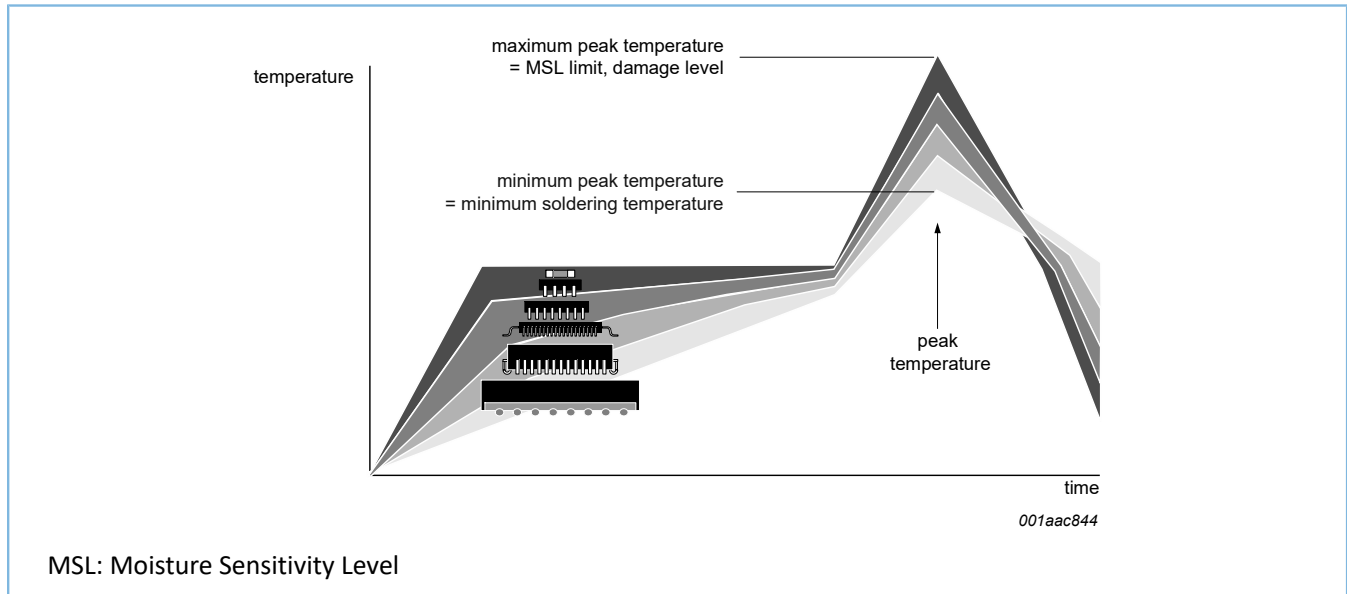

Figure 14-1: Temperature profiles for large and small components
- Lead-free versus SnPb soldering; note that a lead-free reflow process usually leads to higher minimum peak temperatures (see Figure 14-1) than a SnPb process, thus reducing the process window
Studies have shown that small packages reach higher temperatures during reflow soldering, see Figure 14-1.